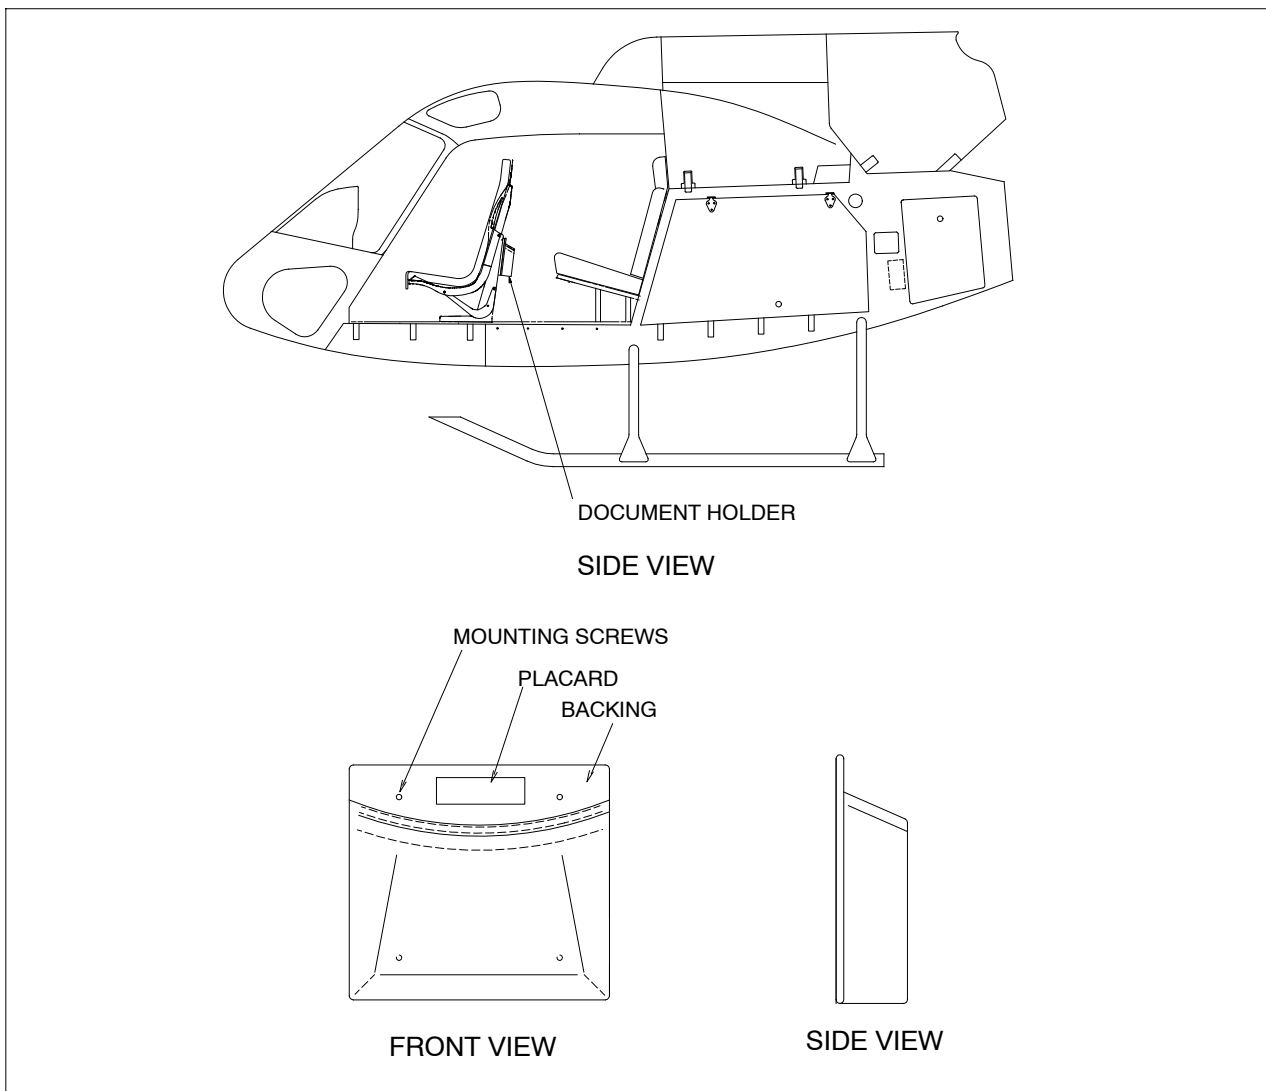

Figure 1 General Layout
Refer to Figure 1 for General Layout.
1) DOCUMENT HOLDERS (Refer to Figure 1)
- a) Remove existing hardware securing backing plate (6) and document holder (1) to the back of the outboard forward seat(s) and place on workbench. Retain hardware for reinstallation.
- b) Remove screws (2, 4 places), washers (3, 4 places) and nuts (4, 4 places) securing the document holder (1) to the backing plate (6).
- a) Secure document holder (1) to backing plate (6) using screws (2, 4 places), washers (3, 4 places) and nuts (4, 4 places).
- b) Reposition backing plate (6) with document holder (1) onto back of the outboard forward seat(s) and secure using retained existing hardware.